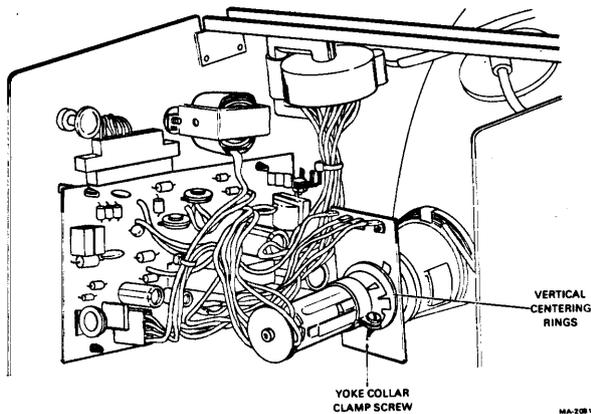

Figure 4-3 CRT Adjustments
8. Loosen the yoke collar clamp screw (Figure 4-3) and turn the yoke until the four sides of the display presentation are parallel to the red shaded area of the alignment template.
9. Center the presentation by rotating the centering tabs on the yoke (Figure 4-3).